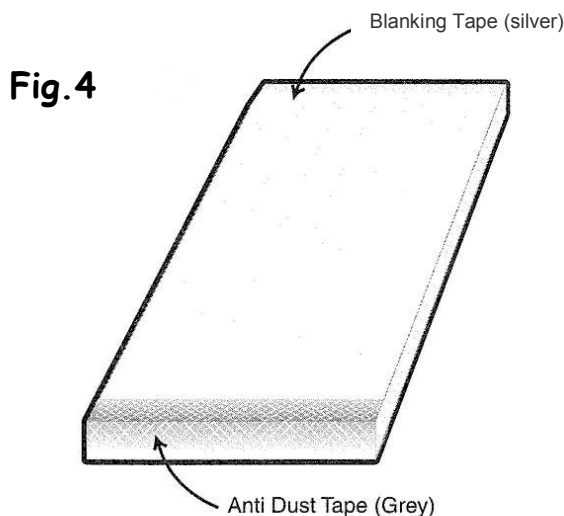

Fig. 4
Step 5: Cut to size sheet is supplied blown free of dust and taped, ready to fit. If cutting sheet on site, you must ensure the flutes of the polycarbonate are free of any dust or swarf. This is done by blowing air through the flutes and sealing the ridge end of the sheet with blanking tape (PBT10, silver in colour). Seal the eaves (gutter) end of the sheet with anti-dust breather tape (Ref. FT10, grey in colour). This process helps prevent dust entry whilst allowing condensation drainage (Fig.4).